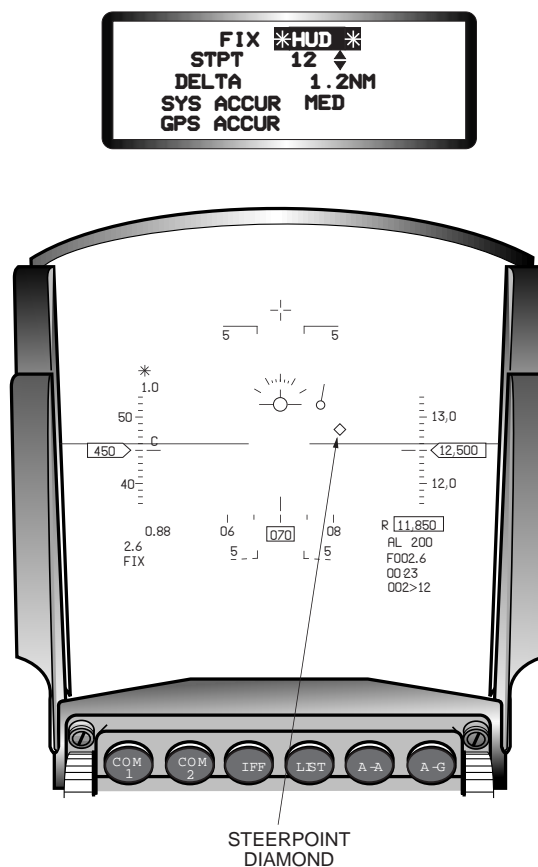

Figure 2-12 HUD Position Update
**HUD Position Update.** The HUD position update is similar to the FCR update except the pilot visually sights on the desired steerpoint by slewing the steerpoint diamond rather than the GM cursor over it. The system uses the steerpoint sighting data for ranging corrections and the AGR mode of the radar for altitude corrections. The pilot selects the FIX mode and selects the HUD submode (Figure 2-12). He then enters the steerpoint number to be used for position updating. The pilot then locates the steerpoint visually in the HUD,